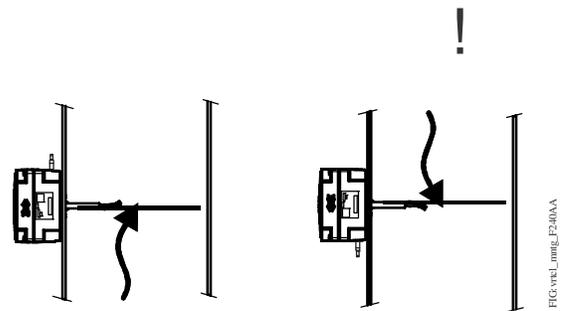

Figure 6: Mounting the F240AA Switch in a Vertical Duct
- When mounting the switch in a vertical duct where the airflow is upward (Figure 6), see Table 2 for the minimum flow required to actuate the switch. The maximum air velocity should not exceed 2,000 FPM (10.16 m/s).
- When mounting the switch in a vertical duct where the airflow is downward (Figure 6), you must readjust the minimum flow required to actuate the switch (see *Setup and Adjustments* on page 4).